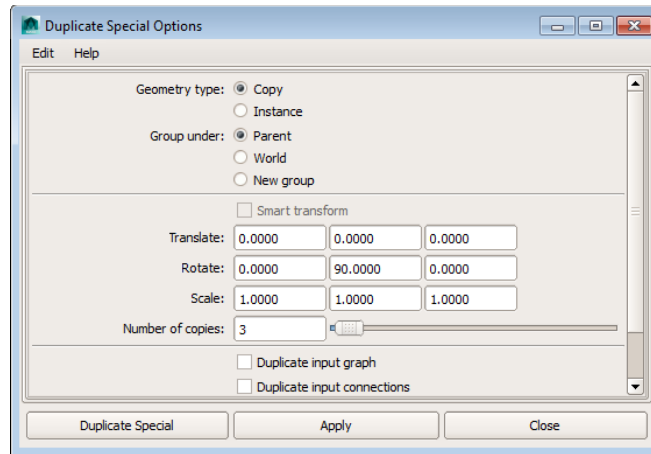
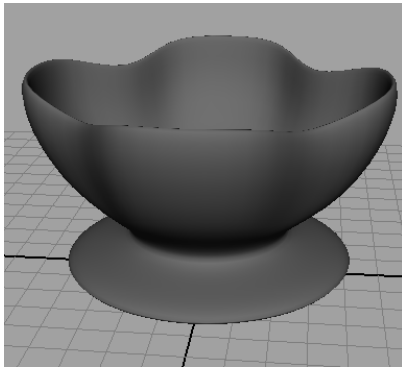

Figure 3-92 The **Duplicate Special Options** dialog box
Figure 3-93 The basic shape of the cup
10. Choose the **Four View** button from the Tool Box to switch to four views. Move the cursor to the persp viewport and then press the SPACEBAR key to maximize the persp viewport. Make sure the part 'A' of the tea cup is selected. Choose **Edit > Duplicate Special > Option Box** from the menubar; the **Duplicate Special Options** dialog box is displayed. Set the parameters in this dialog box, as shown in Figure 3-92. Next, Choose the **Duplicate Special** button; the basic shape of the tea cup is created and the dialog box is closed, as shown in Figure 3-93.